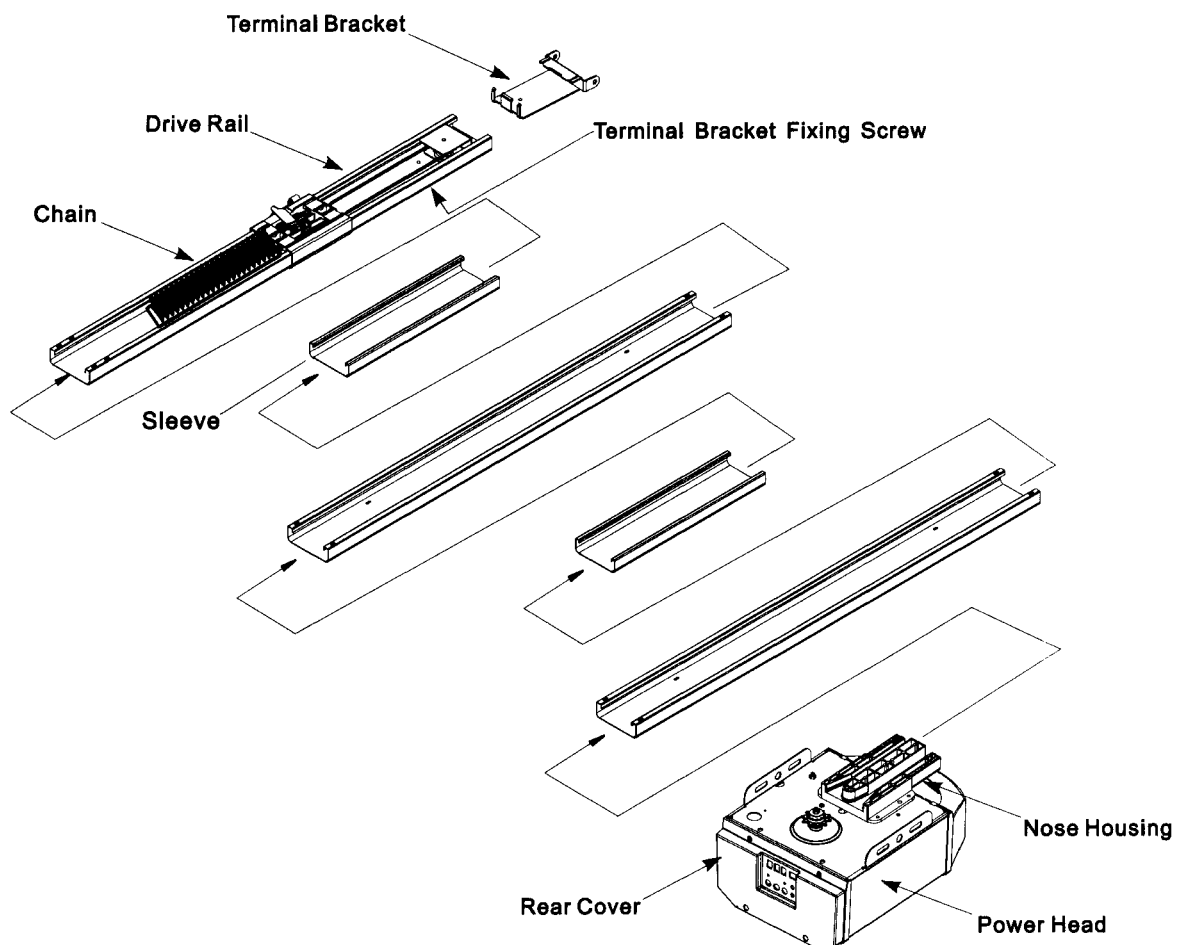

Fig 2
- On a clean, smooth surface, unpack the Drive Rails, Sleeves, Terminal Bracket, Terminal Bracket Fixing Screw and Power Head and place them end to end on a clean flat surface. (Fig 2)
- Affix the Terminal Bracket Fixing Screw which locks the terminal bracket to the drive rail. (Fig.2)
- Take the Fully Assembled Rail and insert it onto the Nose Housing of the Power Head. (Fig.2)
- Lay the assembled AGDO on the garage floor in line with the centerline of the garage door so that the Power Head (Fig.2) is furthest from the garage door.